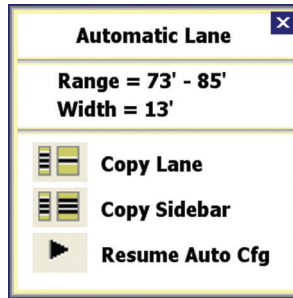

Figure 6.4 - Automatic Lane Window
- 3 Click on the desired automatic lane in sidebar (when the sidebar is set to 1) and the Automatic Lane window will appear (see Figure 6.4). This window allows you to select the lanes you want to appear in the roadway. To have all lanes appear in the roadway, click the **Copy Sidebar** button; to have individual lanes appear in the roadway, click the **Copy Lane** button. You can also copy the entire sidebar and then delete the unwanted lanes by clicking on them and selecting **Delete**.